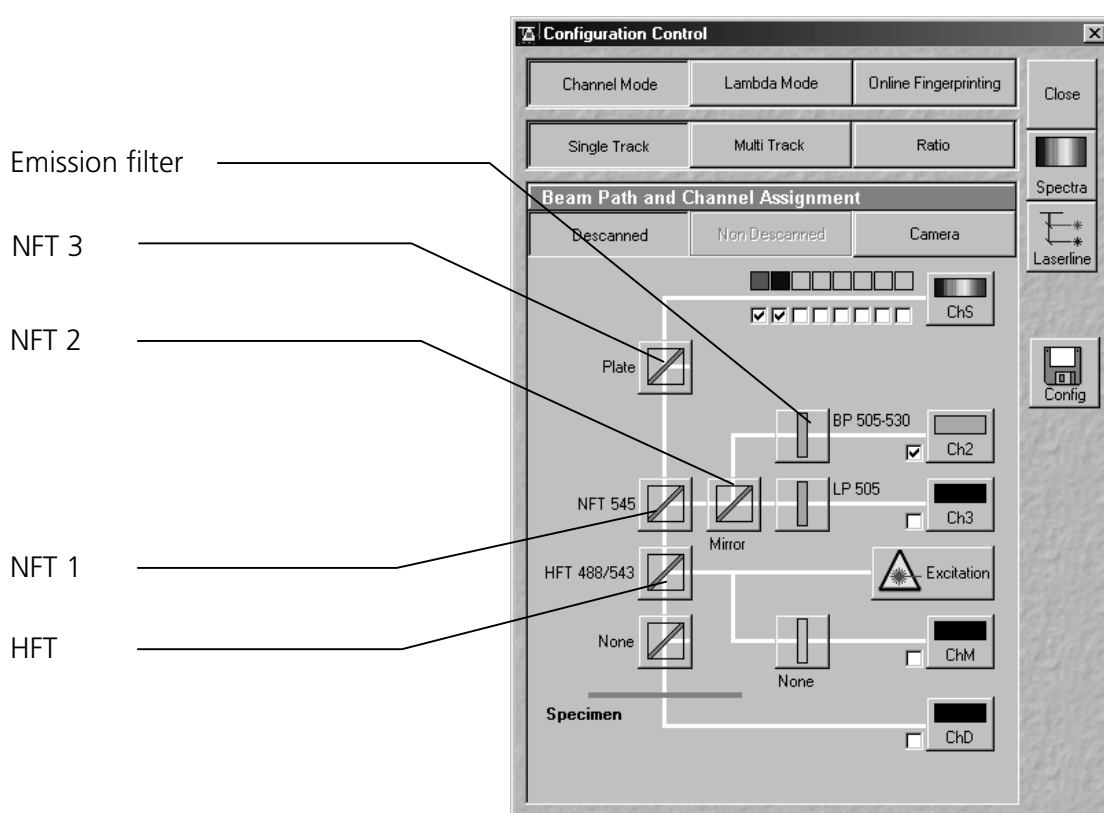

Fig. 5-42 Configuration Control window
The assignment of the numbered emission filters (1-4), NFT secondary dichroic beam splitters (1-3) and HFT main dichroic beam splitters in the **Beam Path and Channel Assignment** panel is shown in the **Configuration Control** window (Fig. 5-42). The numbers of the emission filters correspond to those of the channels lying behind (PMT photomultipliers).
(2) Beam path - HFT main dichroic beam splitters and NFT secondary dichroic beam splitters
- On the **Beam Path and Channel Assignment** panel, click on the HFT main dichroic beam splitters  (see Fig. 5-42).